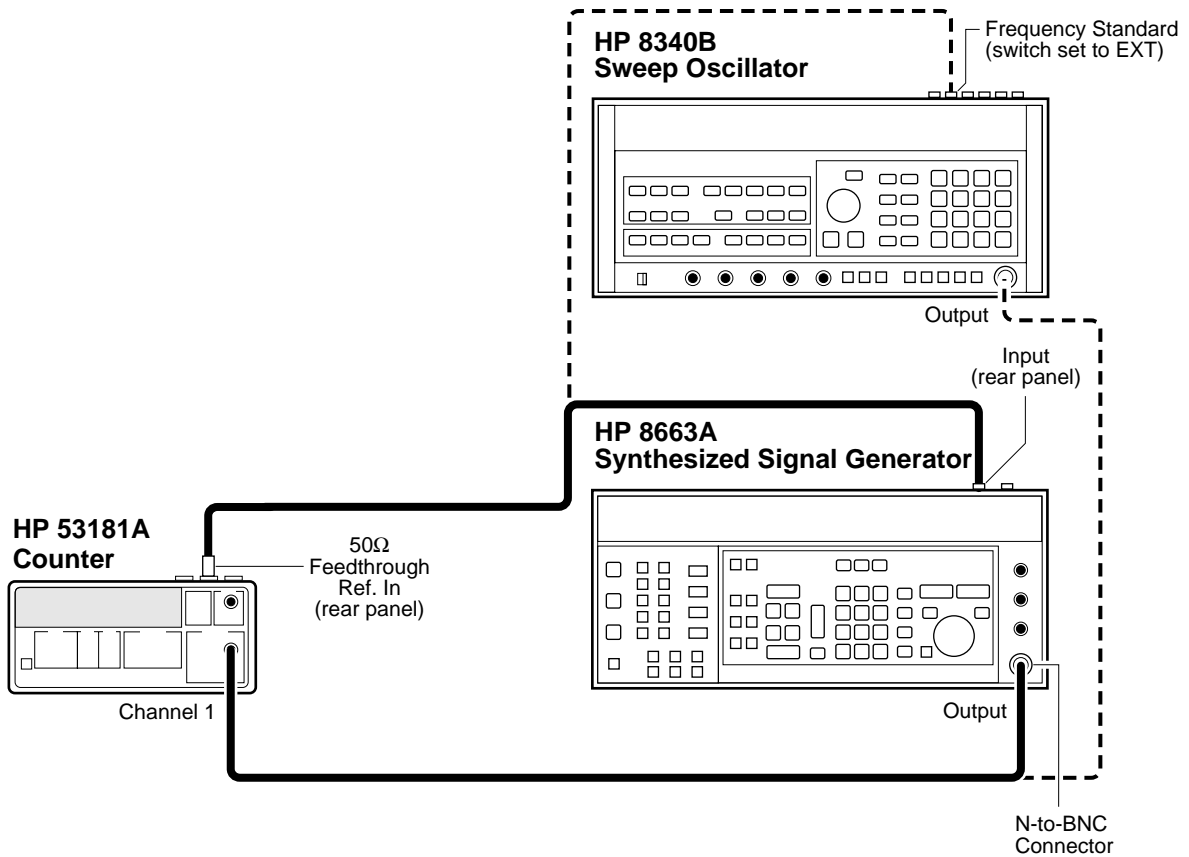

Figure 1-13. Channels 1 Frequency Accuracy Test Setup
- 1 Connect the equipment as shown in Figure 1-13 with the signal generator connected to Channel 1 of the Counter.**